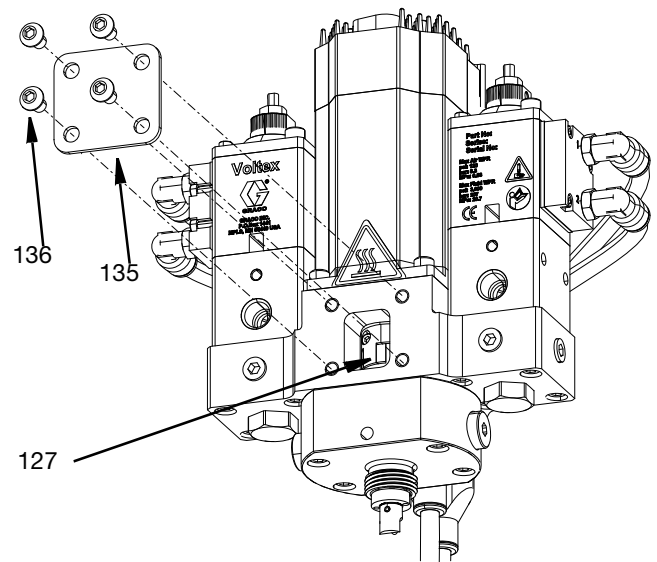
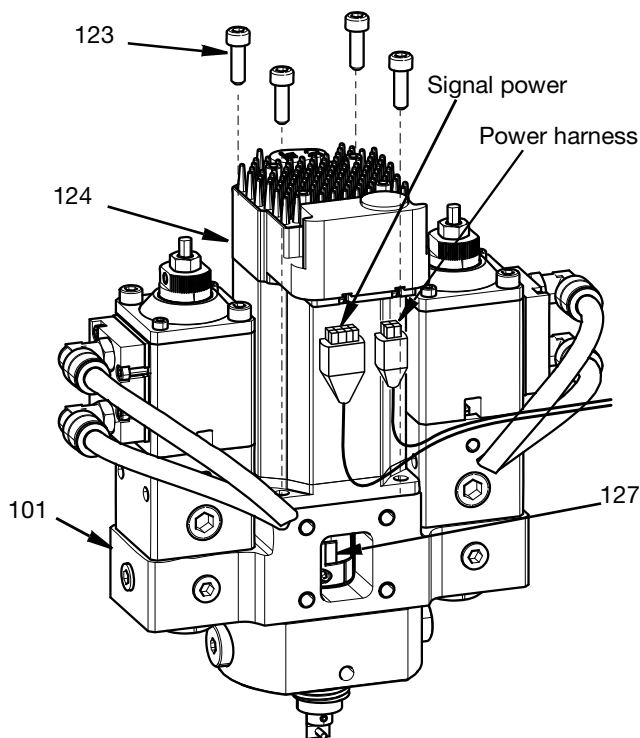

FIG. 44
FIG. 48
2. Remove the coupling cover (135) by removing the four screws (136) with a 4mm Allen wrench.
3. Loosen clamp screw on the lower part of the rotary coupling (127) using a 5/64 in. allen wrench. Do not use a ball end allen wrench. See FIG. 44.
3. Remove the four M6 screws holding the coupling cover using a 5 mm allen key. See FIG. 44, page 53.
4. Loosen clamp screw on upper part of the coupler (127) using a 5/64 in. allen key. NOTE: Do not use ball end allen wrench.
5. Remove the four M5 screws (123) with a 4mm allen wrench.
6. Remove the motor (124). See FIG. 48.